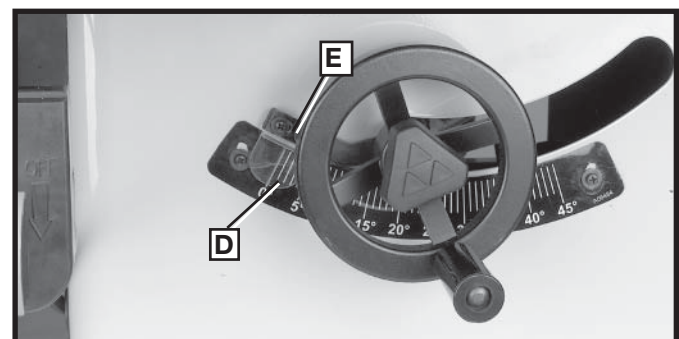

Fig. 61
5. Adjust the hairline indicator (D) Fig. 61, to point to the zero degree mark on the scale by loosening screws (E), adjusting pointer (D), and tightening screws (E).